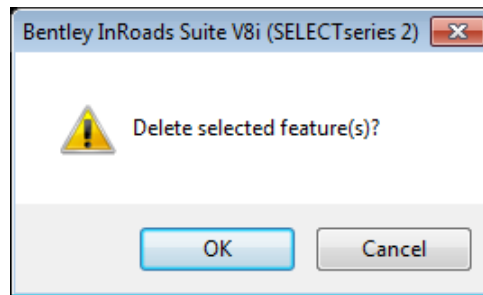

**Figure L9-4** Delete Feature Points
- The inputs should now correspond to the screen capture depicted in *Figure L9-4* (as shown below). Verify to ensure that your input matches the screen capture.